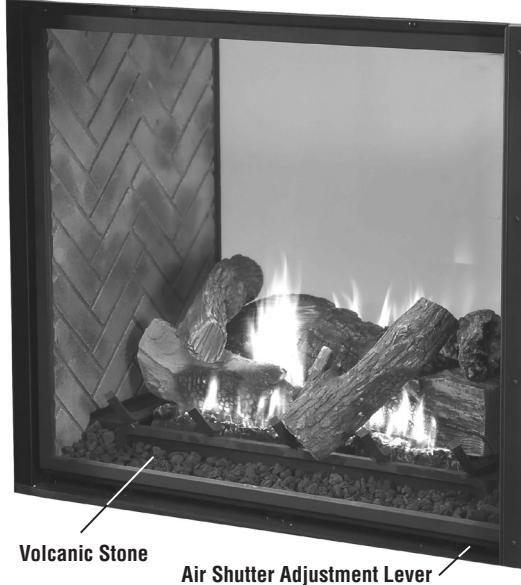

Figure 83
2. Allow the burner to operate for at least 30 minutes while continuously observing the flame to ensure that the proper flame appearance has been achieved (see *Figures 83 and 84*).
3. Adjust the air shutter using the Air Shutter Adjustment Lever on the lower right side of the firebox (see *Figure 83*).
NOTE: See *Figures 83 and 84* for proper burner flame appearance.